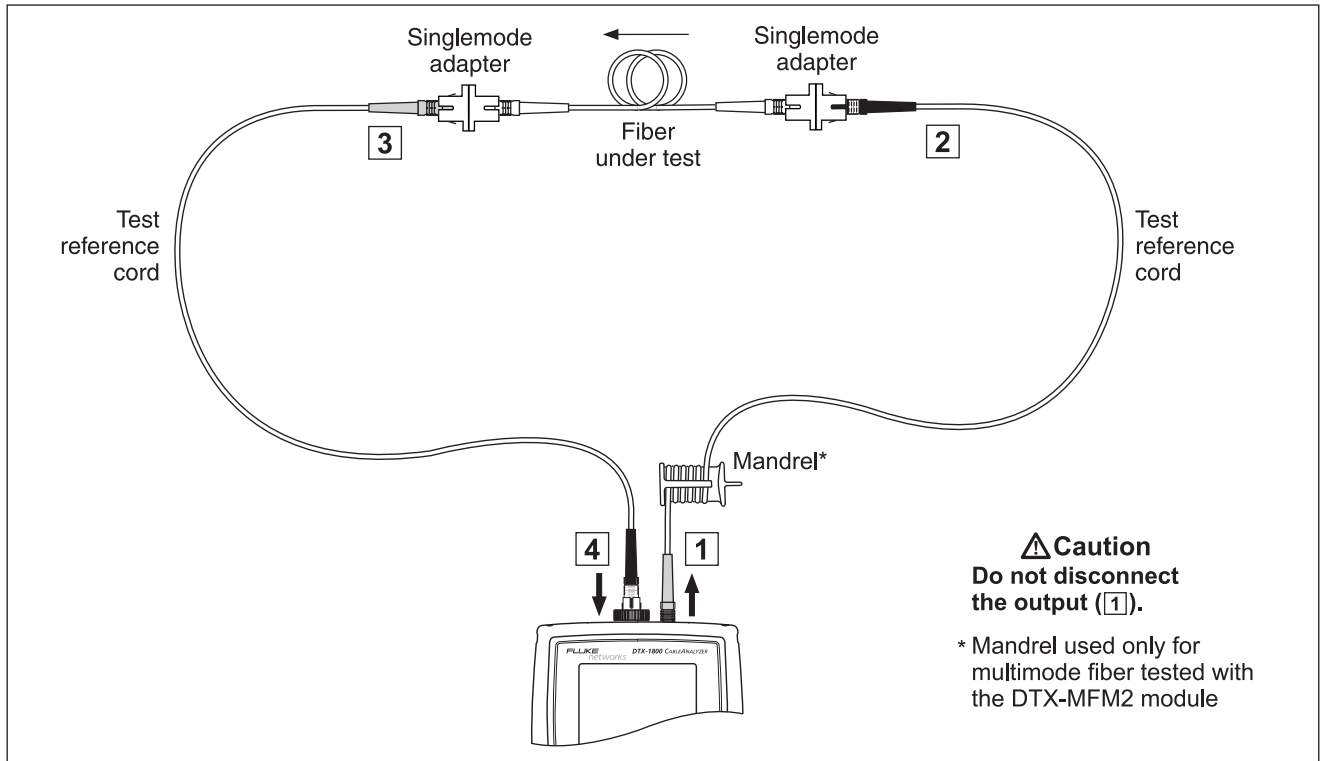

Figure 8-16. Testing a Fiber in Loopback Mode (1 Jumper Method)
- 21 Connect the tester to the cabling. Figure 8-16 shows connections for the 1 Jumper method.